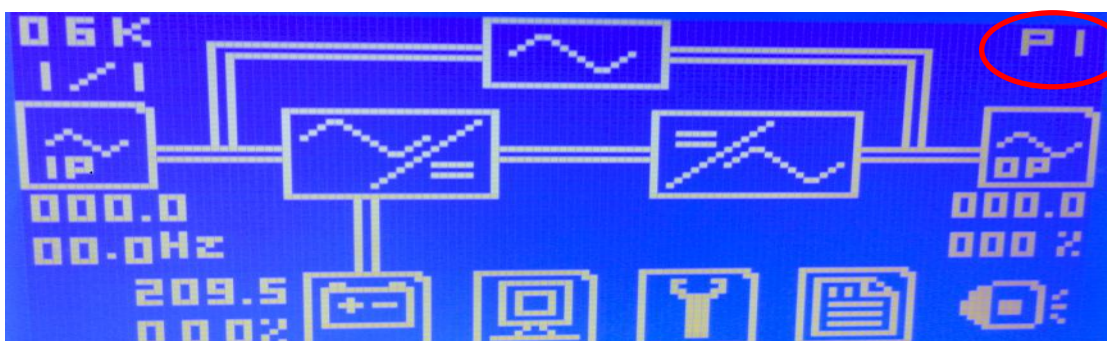

Fig 2.3 UPS 2 panel
5. Then modify UPS 2, panel show as fig2.3. Then turn off UPS 2.